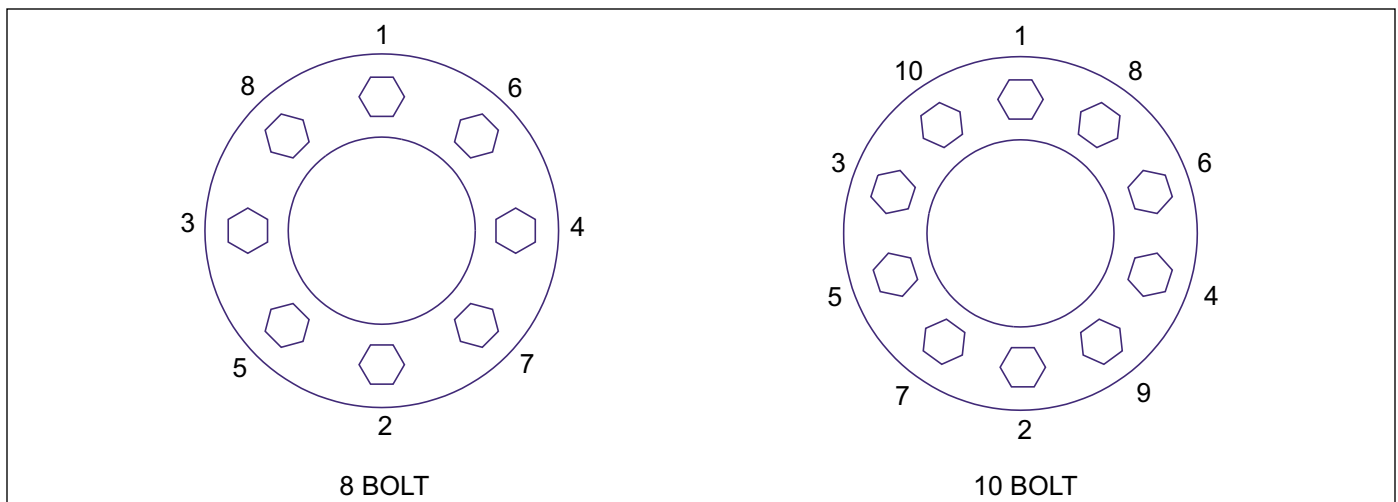

Figure 4-21: Stud Tightening Sequence
4. Install the flange nut (pilot mount) and tighten to 50 foot-pounds using the sequence in Figure 4-21. Then tighten to full torque of 450 to 500 ft-lbs.
Improper tightening sequence	Follow proper tightening sequence (See Figure 4-21.)